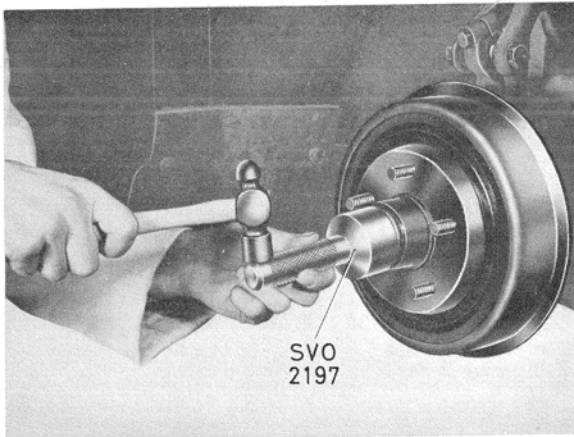
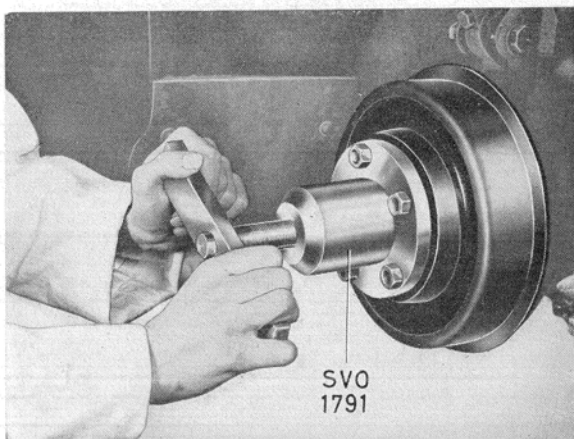
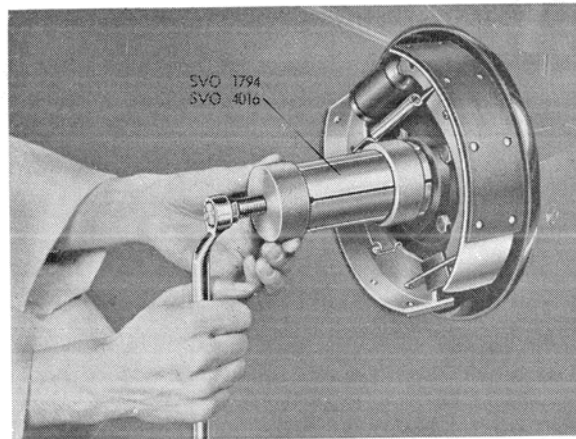

Fig. 7. Removing grease cap.
Fig. 8. Removing hub.
Fig. 9. Removing inner bearing.
2. Remove grease cap with tool SVO 2197 (Fig. 7). Remove split pin and castle nuts. Pull off hub with tool SVO 1791 (Fig. 8). If the inner bearing does not come out with it, this can be pulled off the spindle with tool SVO 1794 (Fig. 9). For hubs with 4 wheel studs (earlier production), use pullers SVO 1446 and SVO 4016 instead of the above.
2. Release handbrake. Pull off hub with tool SVO 1791, see Fig. 8. If the hub has 4 wheel studs (chassis numbers 1—20004) use SVO 1446.